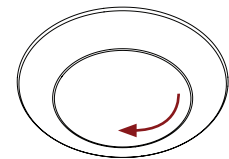

Figure 4
5. Replace lens and twist clockwise to lock (Figure 4)